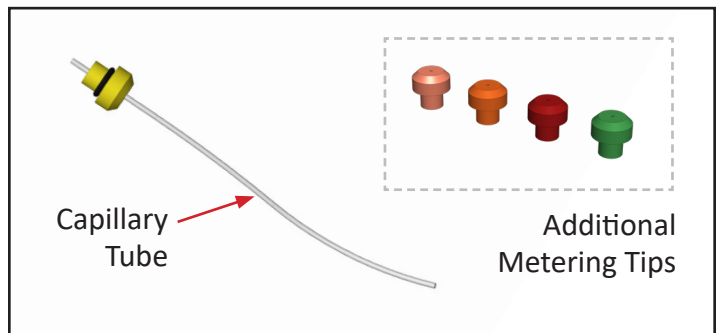

Fig. 7.2: Metering Tips and Capillary Tube
1. Connect water source to solenoid valve quick fitting inlet using 1/2" Polyethylene tubing or similar [Figure 7.2].
3. With the metering tip installed, connect solution source to orange hose barb of the Venturi Injector (located above water inlet) using 1/4" clear PVC tubing (included) [Figure 7.2].